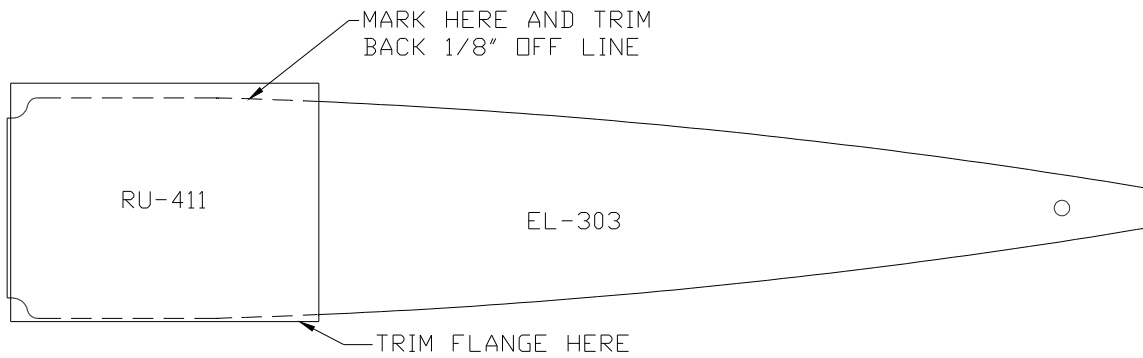

Figure 4.2.6
10) Mark the doubler for trimming in two places. First, mark the outline of the rib opposite the flange onto the doubler. Second, mark the flange of the doubler where the rib begins to curve. Remove, trim and file smooth. Repeat for the other doubler on the opposite side of the rib. Figure 4.2.6.